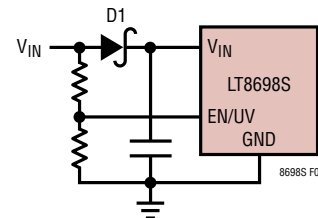

Figure 8. Reverse  $V_{IN}$  Protection
When operating with the output short circuited to a high voltage, such as an automobile battery, the current flow within the system will depend on the state of the LT8698S input supply  $V_{IN}$ . If  $V_{IN}$  is disconnected, such as may occur with the ignition switch in the off position, the LT8698S will draw approximately 2.5mA of quiescent current from the output if EN/UV is driven high and 0 $\mu$ A if the EN/UV is low. If  $V_{IN}$  is grounded or reverse connected, the body diode of the internal TOP power FET allows uncontrolled current flow from the output (SW) to the input ( $V_{IN}$ ), potentially damaging the LT8698S. To prevent possible uncontrolled reverse current, see Figure 8.